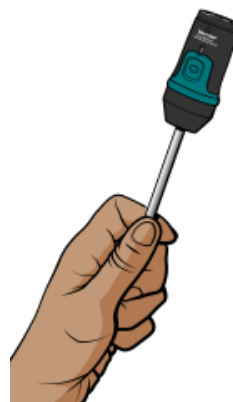

Figure 1
- b. Pick up the Temperature Probe and hold its tip in the palm of your hand as shown in Figure 1. Data collection will end when 60 seconds have gone by.